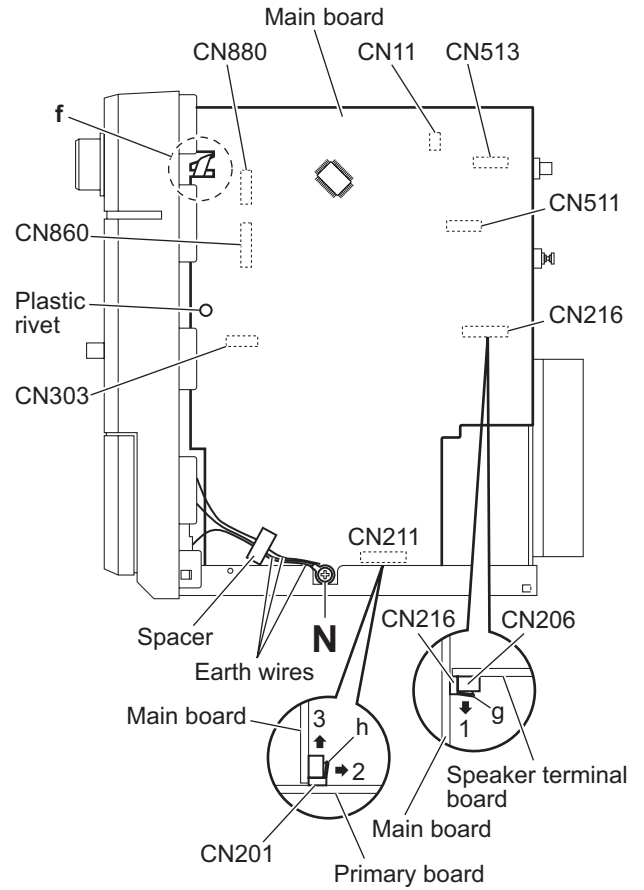

Fig.14
3.1.7 Removing the main board (See Figs.14 and 15)
- From the right side of the main body, remove the screw **N** attaching the earth wires on the reverse side of the main board. (See Fig.14.)
After attaching the earth wires, fix them with a spacer as before. (See Fig.14.)
- Remove the plastic rivet attaching the main board. (See Fig.14.)
- From the inside of the main body, disconnect the card wires from the connectors (CN11, CN303, CN511, CN513, CN860, CN880) on the forward side of the main board. (See Figs.14 and 15.)
When reassembly, pass the card wire through the section **f** of the main board before connecting the card wire to the connector CN11. (See Fig.14.)
- Release the lock **g** of the connector CN216 on the main board in the direction of the arrow 1 and disconnect the main board from the connector CN216 on the speaker terminal board toward this side. (See Fig.14.)
When releasing the lock **g**, take care not to break it. (See Fig.14.)
- Release the lock **h** of the connector CN201 on the primary board in the direction of the arrow 2 and disconnect the connector CN211 on main board from the connector CN201 in the direction of the arrow 3. (See Fig.14.)
When releasing the lock **h**, take care not to break it. (See Fig.14.)